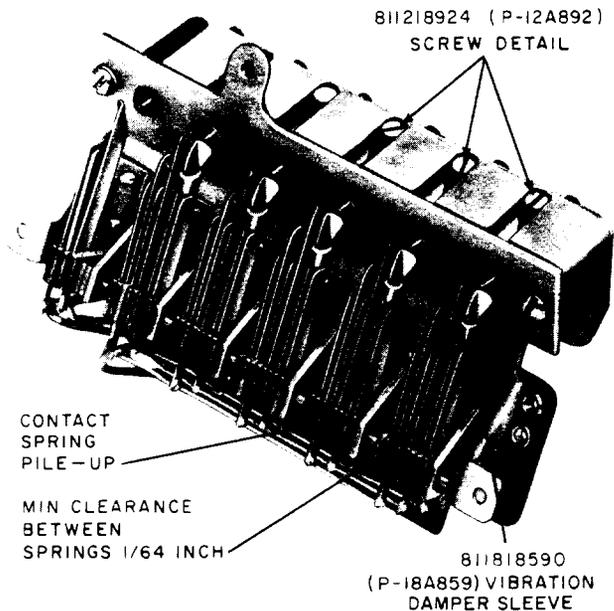

Fig. 14—589-Type Key, Bottom View
- Replacing loose or missing damper studs with 811818590 (P-18A859) vibration damper sleeves (Fig. 14). Later 589-type keys do not require this vibration damper.
**3.15** Contact follow and separation is obtained by using a 363 tool at a point adjacent to contact spring pile-up (Fig. 14). When adjusting springs—
- There should be a minimum spring clearance of 1/64-inch between contact springs and those parts of the key which do not make contact with springs (Fig. 14).